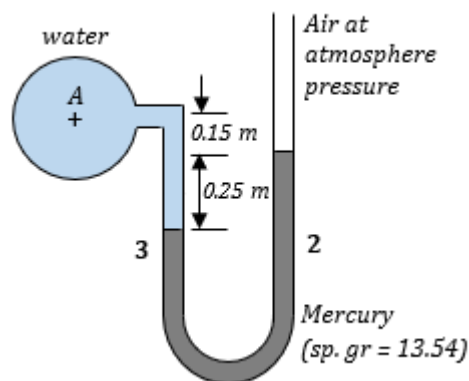

Figure 1
- Using figure 1, calculate the pressure at point A.